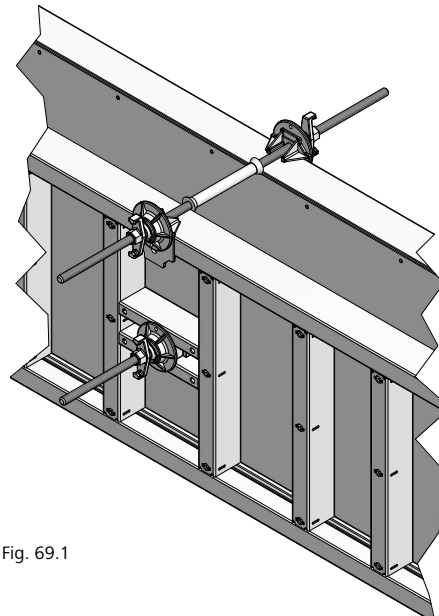
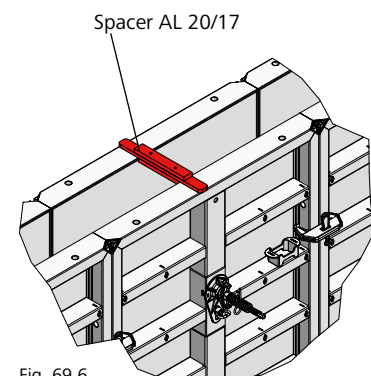

Fig. 69.1
Fig. 69.6
The central tie holes allows the Mammut XT panel to be used horizontally without problem (Figures 69.1 and 69.3). To provide stability and to ensure that the wall thickness is correct in the vicinity of the top tie hole, a spacer (Fig. 69.6) or a wooden blocking may be required. The spacer is available for wall thicknesses 20, 24, 25 and 30 cm.
- Two articulated flange nuts (Figures 69.1 to 69.4) We also recommend the use of a plastic tube. It serves as a spacer and protects the tie connection against contamination.